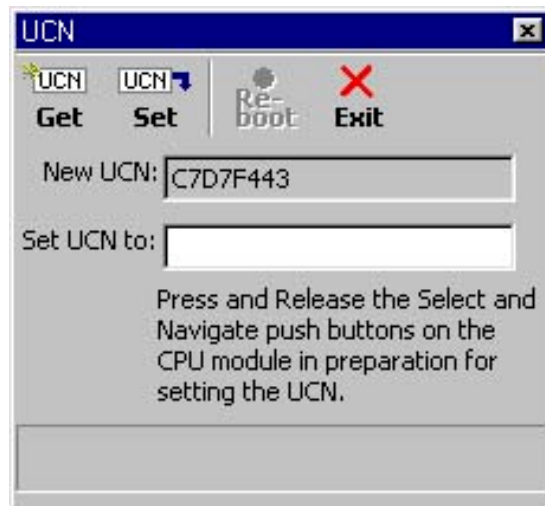

Figure 3-66
1. For obtaining and entering the UCN for the installers version, click on the **Get UCN** button at the top of the display. A new UCN is generated by the GEO™ wayside unit and displayed in the “New UCN” text box (see figure 3-66).
If the **Set UCN** button is clicked on, but the **Select** and **Navigate** push buttons on the GEO™ unit were not pressed as directed (see figure 3-66), the Set UCN message shown at right is displayed. Click on the **OK** button in the message box and then repeat the button sequence.